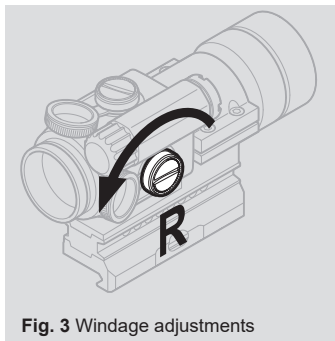
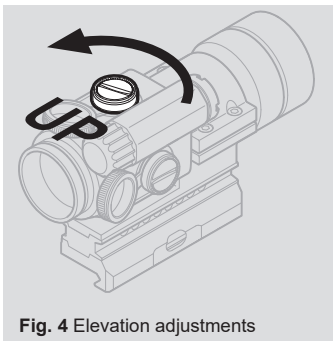

Fig. 3 Windage adjustments
Fig. 4 Elevation adjustments
- e Windage adjustments (see Fig. 3):
- Turn windage adjustment screw (6) counterclockwise to move point of impact to the right (R).
- Turn windage screw (6) clockwise to move point of impact to the left.
- f Elevation adjustments (see Fig. 4):
- Turn elevation adjustment screw (5) counterclockwise to move point of impact up (UP).
- Turn elevation adjustment screw (5) clockwise to move point of impact down.